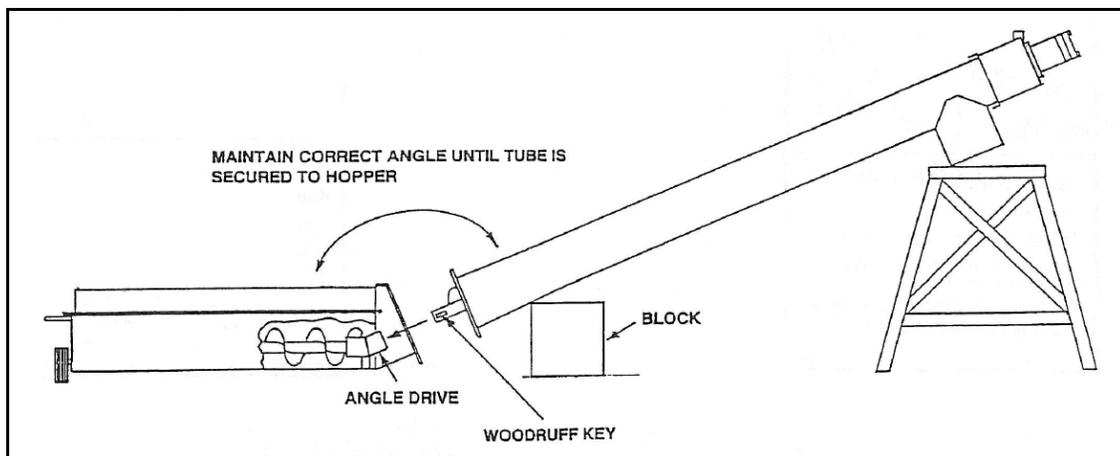

Figure 3.1
1. Remove access covers and clean paint and dirt from flightshaft end. Insert Woodruff key as shown in Figure 3.1.
2. Raise tube to correct angle¹, then bring hopper and tube sections together, carefully sliding the flightshaft end with Woodruff key into the angle drive. Connect the hopper and tube section with eight 7/16" x 1" bolts (for the **8" & 10" models**) and locknuts. **13" Models** use 12 bolts and locknuts. See Figure 3.1. **Reinstall access covers.**